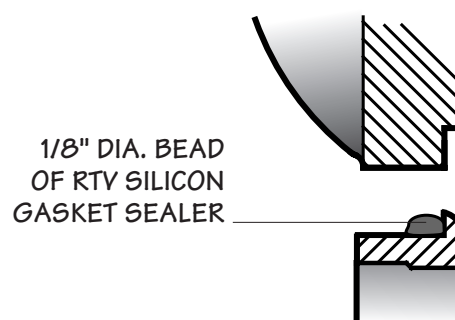

Figure 5 Flange Seal of Bottom Bearing Cap
4. Install the bottom cover cap using sealer as indicated in **Figure 5** and tighten cap screws to 25 ft·lb_f (34 N·m). Use old shim pack or make up equivalent thickness shim pack (**420**) and install the bottom bearing retainer cap. Do not install the O-ring for the bottom bearing retainer at this time. Tighten the cap screws to 25 ft·lb_f (34 N·m).